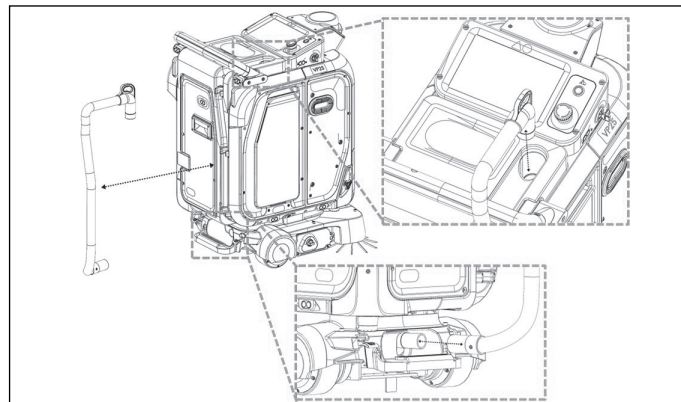

Figure 74
1. Remove the vacuum hose (**25**) (**Fig. 5**) by pulling both fittings out from the robot, keeping a cloth handy in case of dust spillage (**Fig. 74**). Lift the bottom of the hose past the handlebar (**15**) (**Fig. 3**) to remove it from the machine.